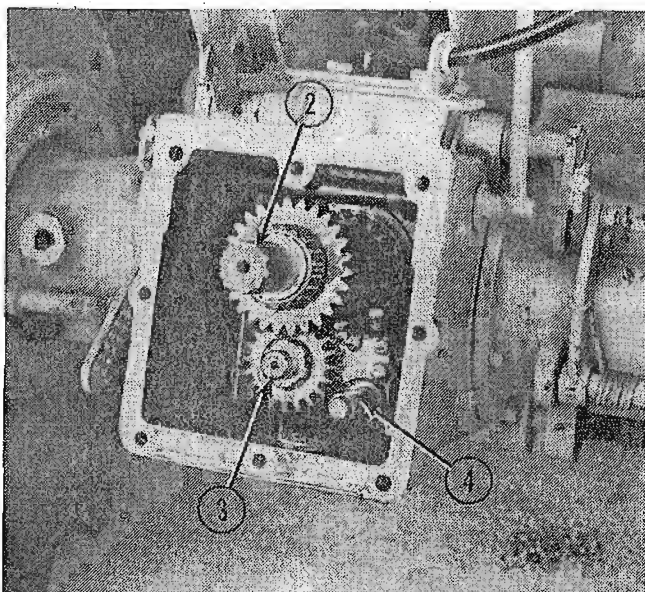

FIG. 2 .
Figure 2 shows the rear differential case with the cover removed and the
1. Rear pinion drive shaft in position (2, Fig. 2)
2. The PTO final drive shaft in position (3, Fig. 2)
3. The ground drive PT0 shifter and drive gear in place (4, Fig. 2).